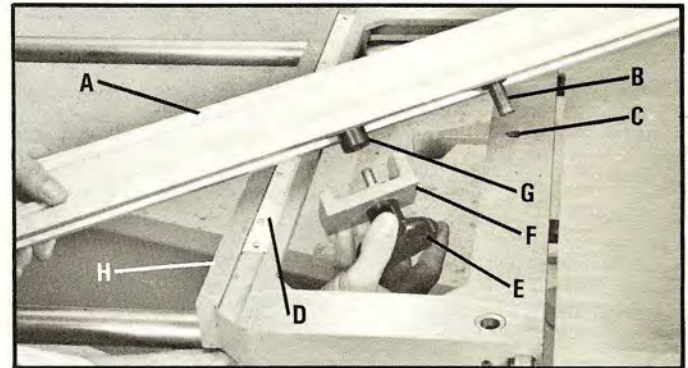

Fig. 49
1. Insert clamp shoe (B) Fig. 49, in hole (C) and fasten with one of the clamp knobs.
2. Position the fence (A) Fig. 49, at the desired angle on the scale (D).
3. Thread clamp knob (E) Fig. 49, with clamp (F) into special clamp shoe (G) and clamp cross-cut fence to the sliding table extension (H).